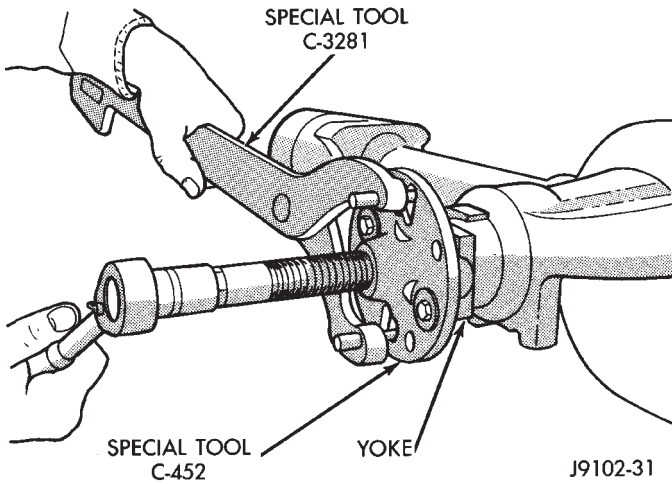

Fig. 34 Pinion Yoke Removal
- (1) Remove differential from the axle housing.
- (2) Mark pinion yoke and propeller shaft for installation alignment.
- (3) Disconnect propeller shaft from pinion yoke. Using suitable wire, tie propeller shaft to underbody.
- (4) Using Holder 6958 to hold yoke, remove the pinion yoke nut and washer.
- (5) Using Remover C-452 and Wrench C-3281, remove the pinion yoke from pinion shaft (Fig. 34).